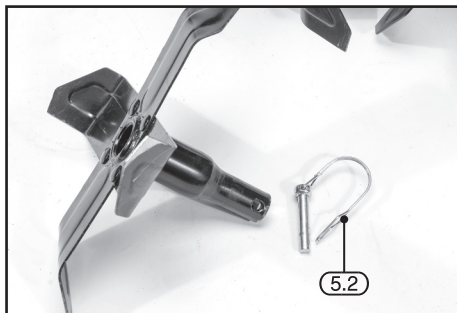

FIG.16
- To remove the outer rotors, un-fasten the locking pins (5.2). The outer rotors can then be pulled away from the machine (fig.16).